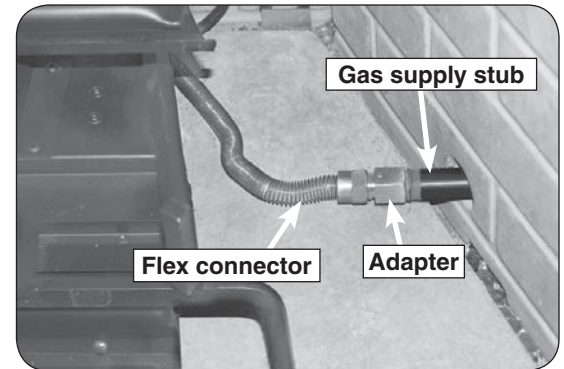

Fig. 17-1 Connect gas supply
2. Locate the gas-supply stub inside the fireplace and remove the cap, if attached (reference Fig. 17-1).
4. **Be sure gas to the fireplace is off.** Remove the adapter connected to the flex connector (pre-installed on the burner system). Attach the adapter to the gas-supply stub using a pipe compound resistant to all gasses. Tighten securely. Then attach the open end of the flex connector to the adapter. Tighten securely (see Fig. 17-1).